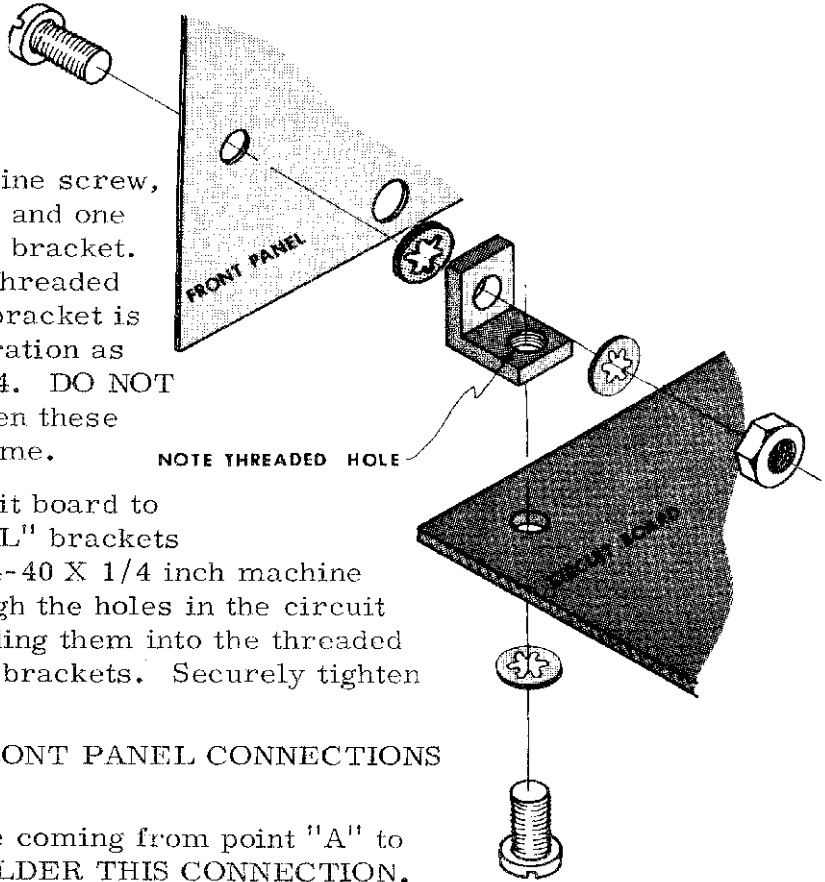

Figure 4
- ( ) Fasten the two "L" brackets to the front panel using one 4-40 X 1/4 inch machine screw, two lockwashers and one 4-40 nut on each bracket. Note that the unthreaded hole in the "L" bracket is used in this operation as shown in figure 4. DO NOT completely tighten these screws at this time.